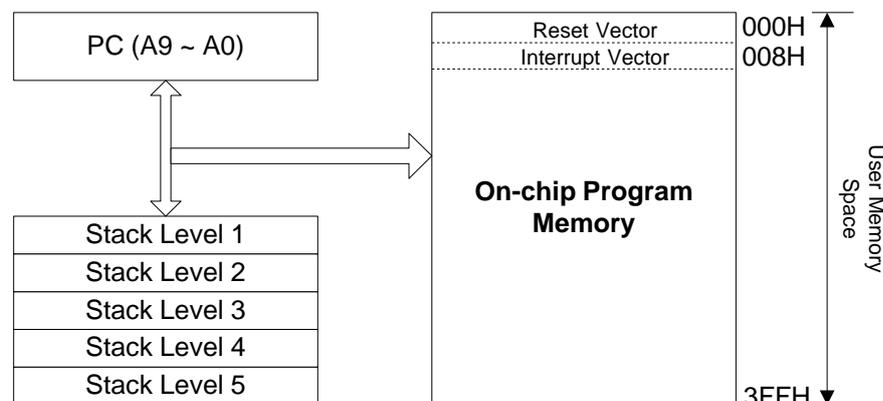

Figure 3 Program Counter Organization
- Depending on the device type, R2 and hardware stack are 10-bit wide. The structure is depicted in Figure3.